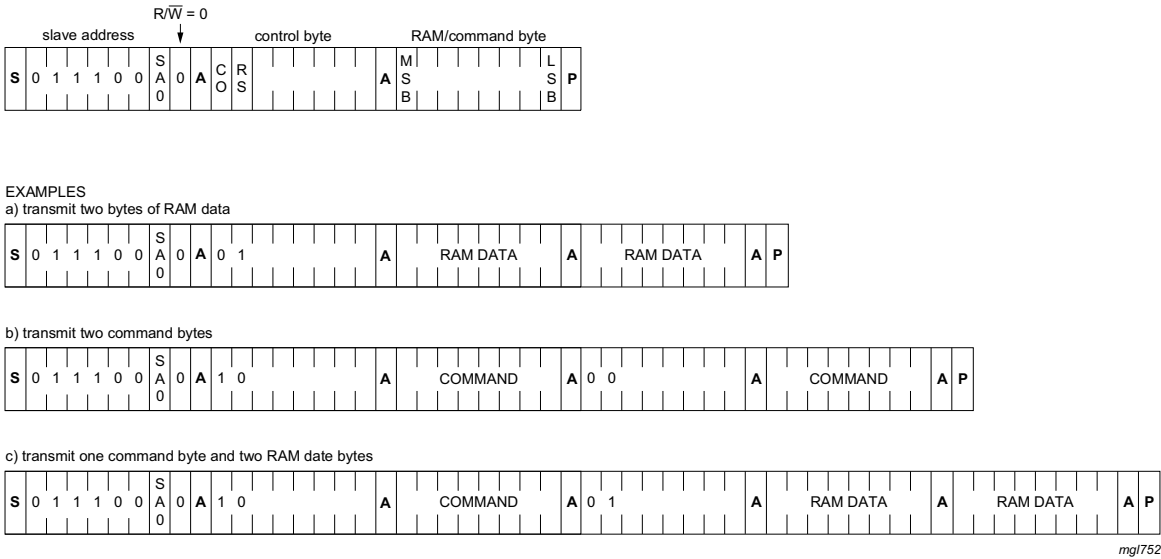

Fig 21. I2C-bus protocol
The I2C-bus protocol is shown in Figure 21. The sequence is initiated with a START condition (S) from the I2C-bus master which is followed by one of two possible PCA85232 slave addresses available. All PCA85232 with the corresponding SA0 level acknowledge in parallel to the slave address, but all PCA85232 with the alternative SA0 level ignore the whole I2C-bus transfer.